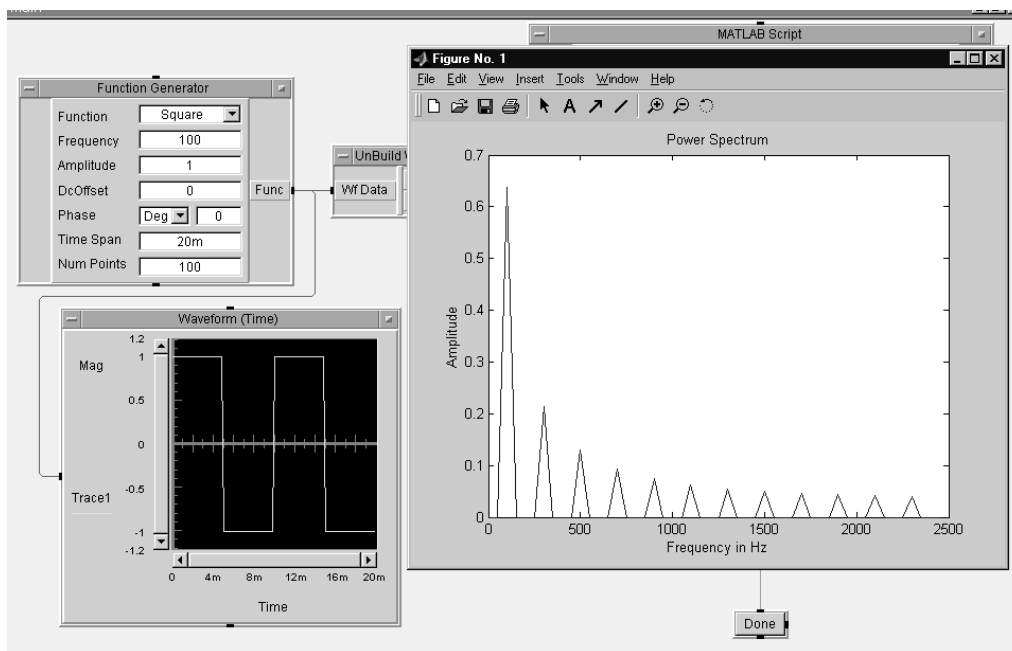

Figure 13.11. Lab 13.5 after running with MATLAB® plot
13. Run this program; it should look like Figure 13.11.